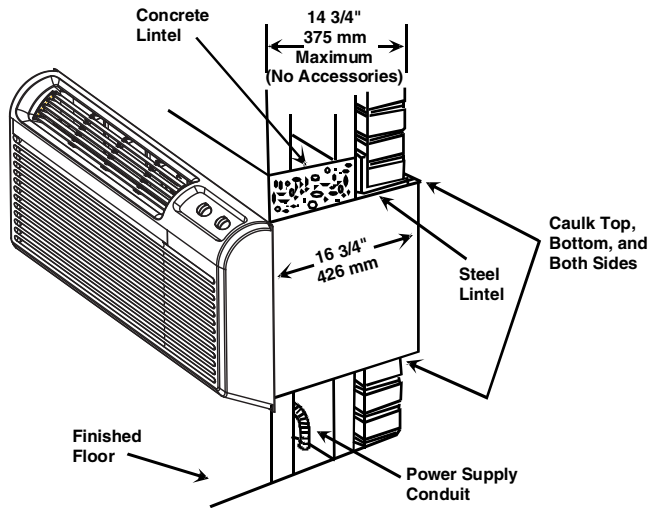

Figure 7
- Provide adequate sealing and insulation around the sleeve after it is installed. See Figure 7 for one example of construction.